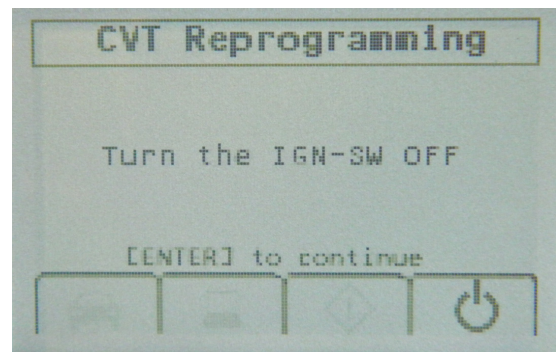

Figure A13
20. When reprogramming is complete, the screen in Figure A13 (next page) will display.